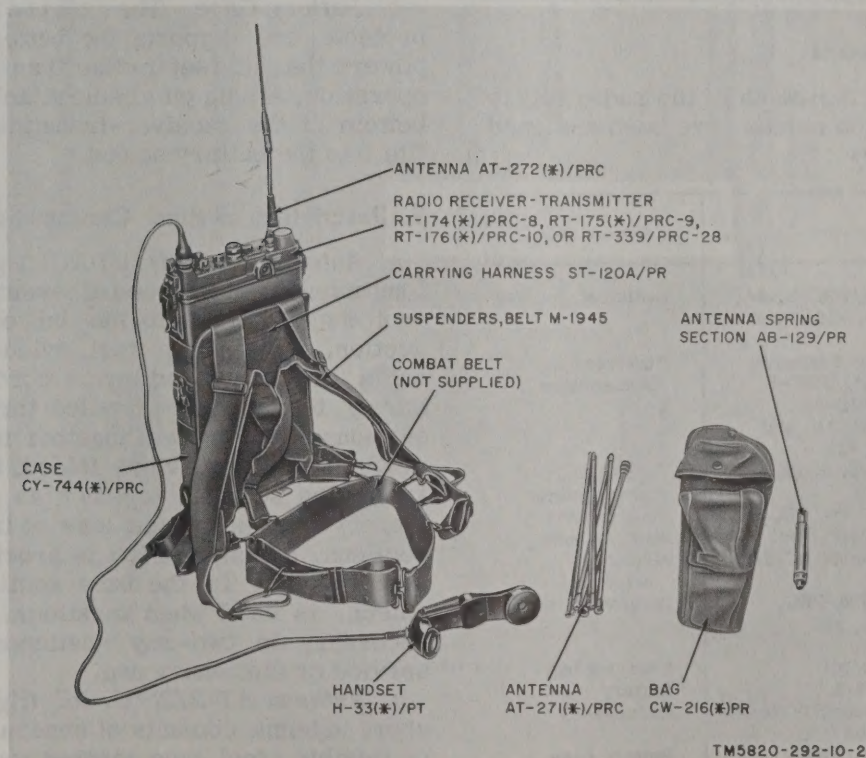
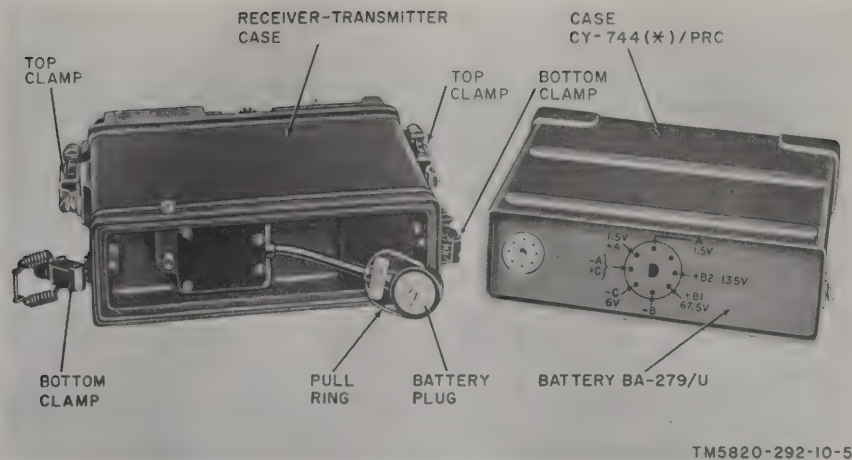

Figure 2. Components of radio set.
Figure 5. Receiver-transmitter and battery cases, disassembled.
a. *Components* (fig. 2). The components of the radio set are listed in the following table. Battery BA-279/U is shown in Case CY-744(*)/PRC in figure 5.
The radio set consists of a receiver-transmitter, a battery case, and minor components (fig. 2). The receiver-transmitter is secured to the battery case by two spring clamps to form a watertight seal. Runners at the bottom of the battery case may be spread apart to support the radio set on a horizontal surface (fig. 4). Figure 5 shows the receiver-transmitter and battery cases disassembled.
a. *Antenna AT-271(*)/PRC* (fig. 2). The long antenna is composed of seven sections; each section fits into the end of a wider section. A stainless-steel, nylon-covered cable (or a braided nylon cord), under spring tension, is threaded through the sections to keep them together in the operating condition. When folded, the cable keeps the sections together as a group, thereby preventing the loss of individual sections. Spring tension is provided by a spiral spring in the base section. This antenna is used when maximum range is necessary in two-way unattended relay service or stationary use.
b. *Antenna AT-272(*)/PRC* (fig. 2). The short antenna consists of several lengths of flexible steel tape riveted together to form a 3-foot tapered whip antenna. A flexible elbow, which allows for bending at
c. *Antenna Spring Section AB-129/PR* (fig. 2). Antenna Spring Section AB-129/PR is at the base of the long antenna in the operating condition. It protects the long antenna and the LONG ANT connector from damage caused by excessive bending or swaying of the antenna.
d. *Handset H-33(*)/PT* (fig. 2). The handset consists of a microphone and receiver section for transmitting and receiving signals, and a push-to-talk switch. The handset connects through a cable and 10-contact plug to the AUDIO connector on the control panel.
f. *Suspenders, Belt M-1945* (fig. 2). The suspenders support the operator's combat belt and the harness to which the equipment is secured (g below). The suspenders are padded at the shoulders and are adjustable to fit the operator. A loop slide at the shoulder location on each suspender secures the harness.
g. *Carrying Harness ST-120/PR and ST-120A/PR*. The harness is fastened to the equipment by three adjustable straps. On Carrying Harness ST-120/PR (fig. 1), two rings are sewn into the bottom strap for securing the bottom of the harness to the suspenders. On Carrying Harness ST-120A/PR (fig. 2), furnished with later models of the radio set, two straps instead of two rings are attached to the bottom strap. Carrying Harness ST-120A/PR has an extra wide bottom strap. Two straps, at the top of both harnesses, support the entire pack and adjust its position when fastened in the two loop slides of the suspenders.
Battery BA-279/U (fig. 5) is not supplied as part of the radio set but is required for